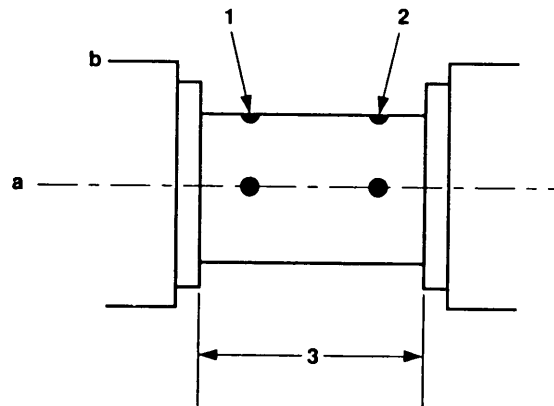

Figure 6-12. Checking Crankshaft Journals.
- (1) Using micrometer, measure all journal diameters at points (figure 6-12, 1, 2, and 3), in the vertical and horizontal, as indicated by "a" and "b".